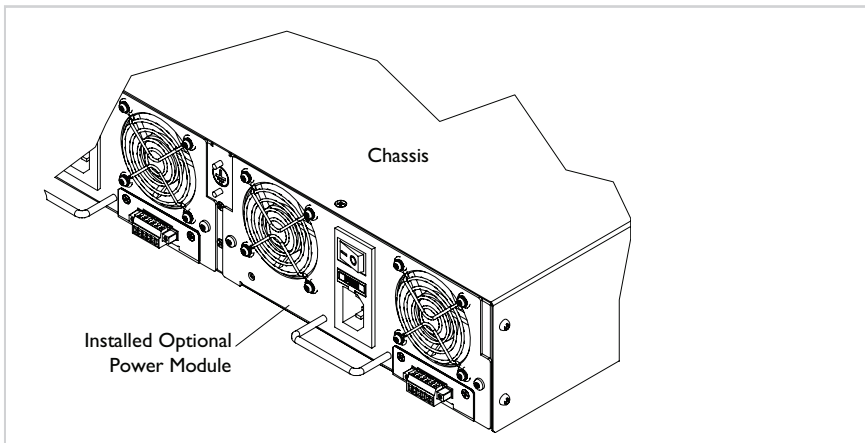

Figure 6: Power Module Installation
5. Slide the Power Module completely into the chassis. See Figure 6.